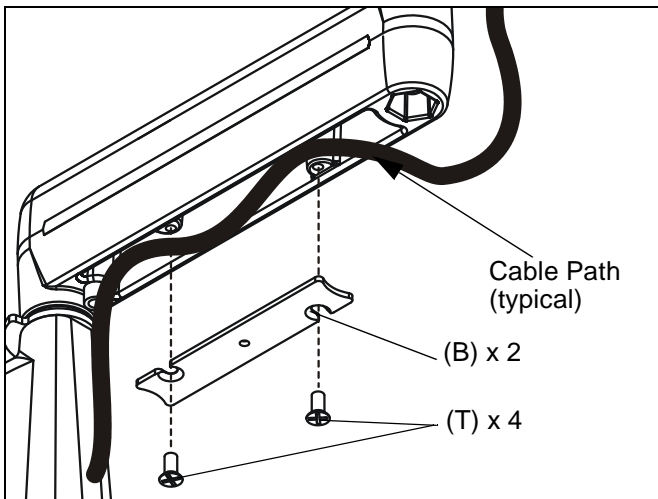

Figure 12:
**CAUTION:** Ensure that adequate cable slack exists for movement of display, and that cables will not be pinched by installation of cover (B) or screws (T).
- Carefully insert cables in cavity located in lower portion of mount arm (See Figure 12).
- Using Phillips screwdriver, install cover (B) with two screws (T). (See Figure 12)